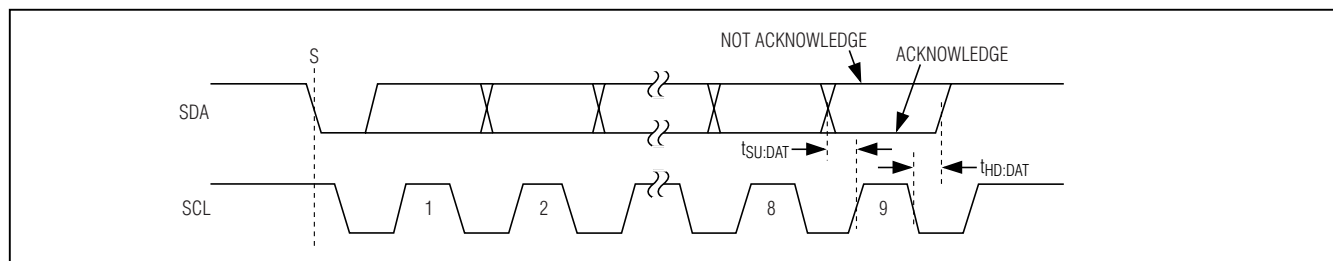

Figure 9. Acknowledge Bits
Both the master and the MAX8660/MAX8661 (slave) generate acknowledge bits when receiving data. The acknowledge bit is the last bit of each 9-bit data packet. To generate an acknowledge (A), the receiving device must pull SDA low before the rising edge of the acknowledge-related clock pulse (ninth pulse) and keep it low during the high period of the clock pulse (Figure 9). To generate a not acknowledge (\bar{A}), the receiving device allows SDA to be pulled high before the rising edge of the acknowledge-related clock pulse and leaves it high during the high period of the clock pulse.